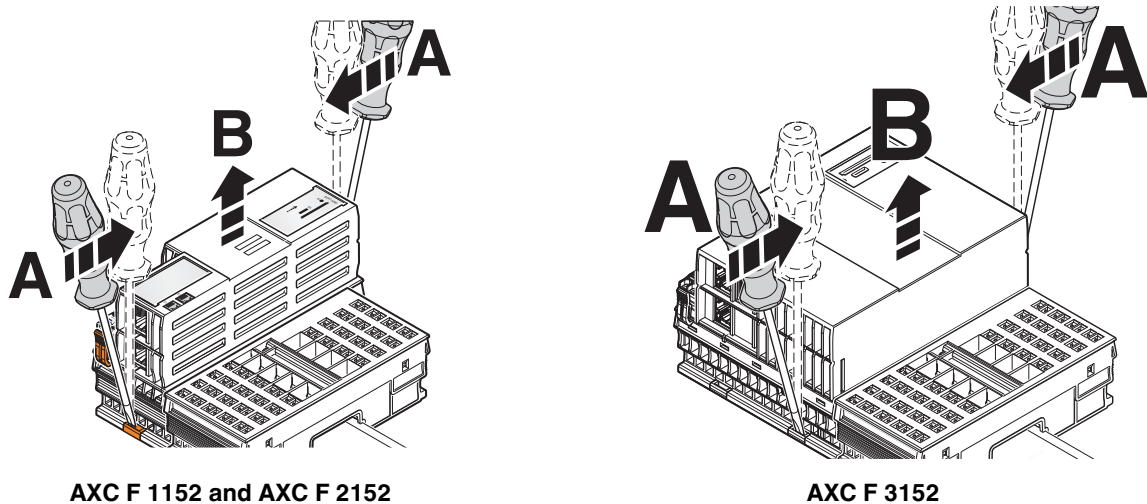

Figure 10-5 Removing the controller
- Insert a suitable tool (e.g., bladed screwdriver) into the upper and lower snap-in mechanisms (base latches) of the controller one after the other and release the controller (A in Figure 10-5).
- Remove the controller keeping it perpendicular to the DIN rail (B in Figure 10-5).